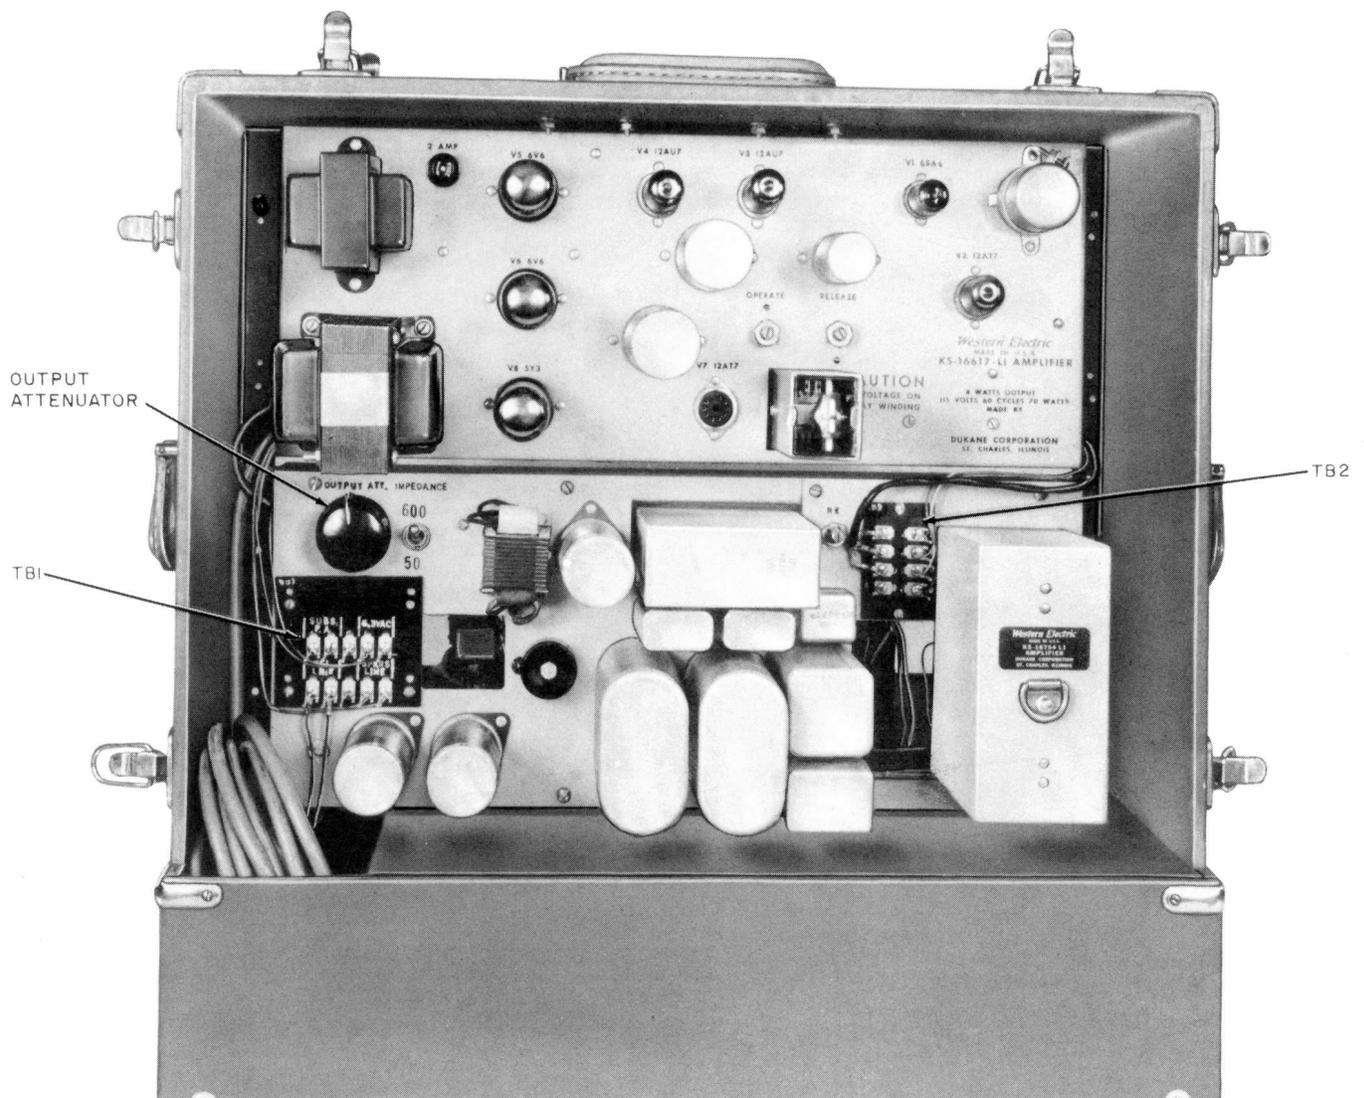

Fig. 2 — KS-19134, List 1 Conference Set (Rear View)
- (1) Turn all controls and switches to OFF position.
- (2) Terminate telephone line on TB1 terminals 6 and 7 on the amplifier control unit (Fig. 2). A two-conductor mounting cord or station wire may be used.